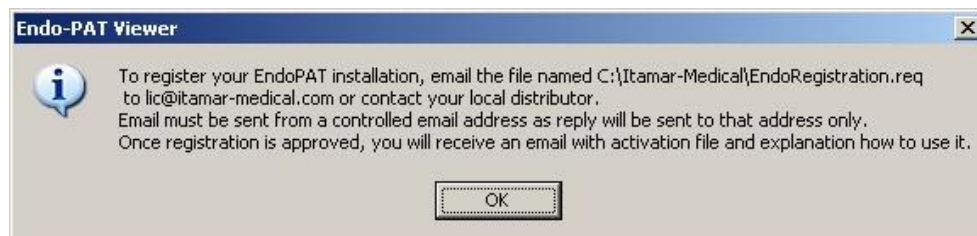

Figure 15 - Registration request file instructions (viewer mode)
3.6.2.6 Click register. You will receive a message (Figure 15) directing to the location of the registration request file (EndoRegistration.req).